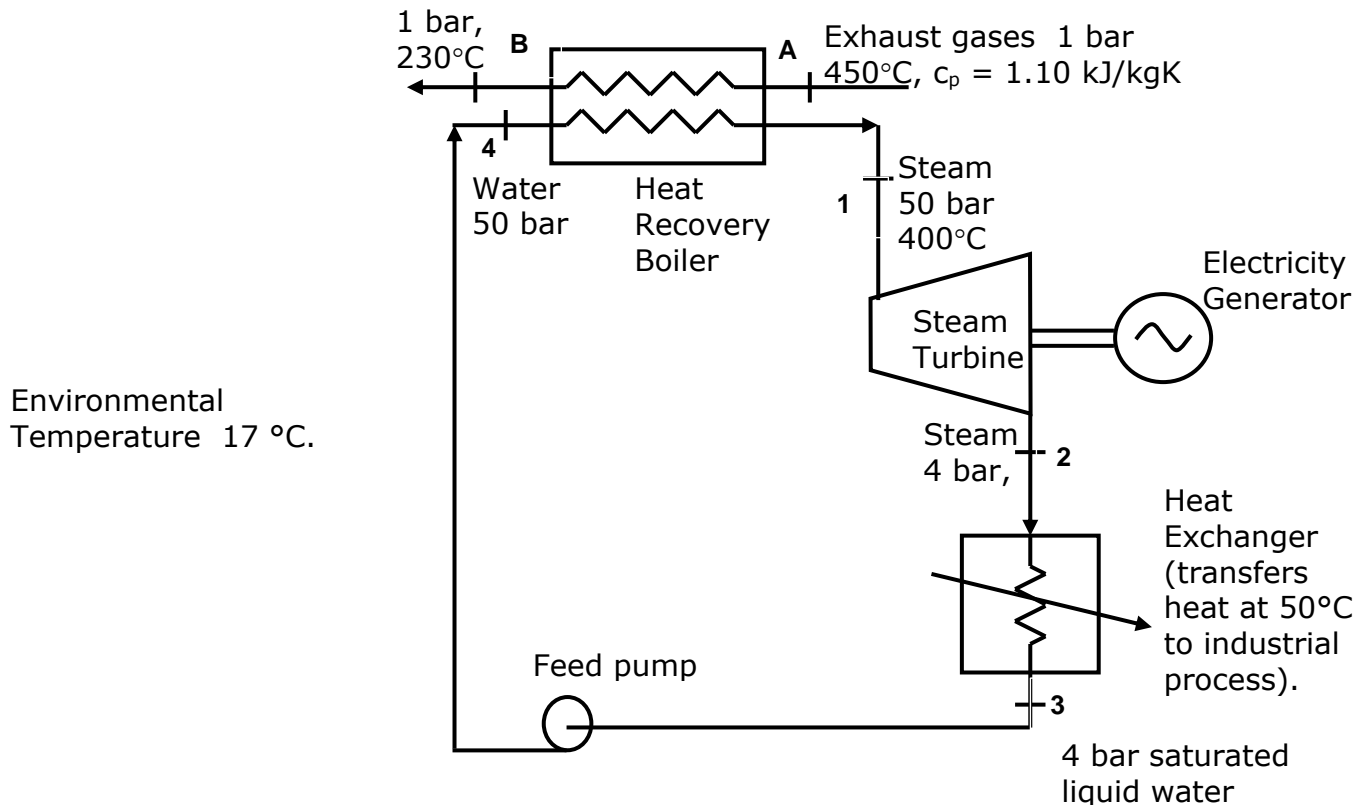

Figure Q4.
4. Hot exhaust gases from an industrial furnace are used to generate steam in a heat recovery boiler. The steam is used to generate electricity in a steam turbine generator and the exhaust steam is condensed in a heat exchanger to transfer heat at 50°C to an industrial process. The heat recovery system is shown in Figure Q4, where the temperature and pressure of the steam and hot exhaust gases are shown.